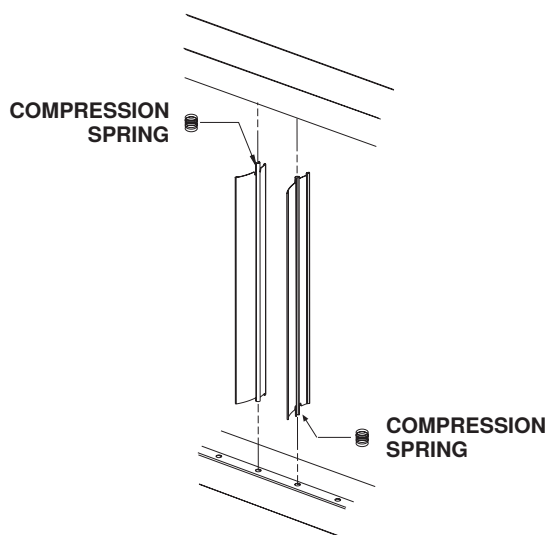

Figure 4. Louver Installation
(2) With wider louver blade facing in toward heat exchanger, push tab with compression spring into hole in top or bottom louver frame (see Figure 4)—spring compresses. Insert tab on other end of louver into opposite louver frame. For left airflow, compress spring into top louver frame. For right airflow, compress spring into bottom louver frame.
(3) Install all remaining louvers in accordance with steps 7a(1) and 7a(2).